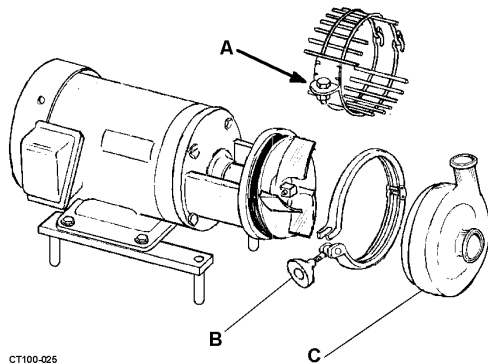

Figure 14 - Casing Assembly
4. Using a wrench, remove the seal guard assembly (see Figure 14, item A).
6. Remove the casing and inspect the clamp saddles and the casing for damage or wear. Replace if necessary. (See Figure 14, item B and C.)
2. Using a wrench, remove the seal guard assembly (See Figure 14, page 19, item A).
4. Remove the casing and inspect the clamp saddles and the casing for damage or wear and replace if necessary (see Figure 14, items B and C on page 19).